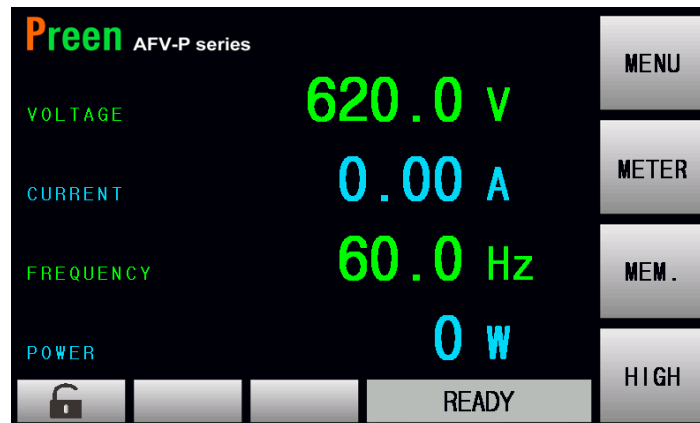

Figure 2
1. After the power on procedure, press **MENU** at the main page (see Figure 2).